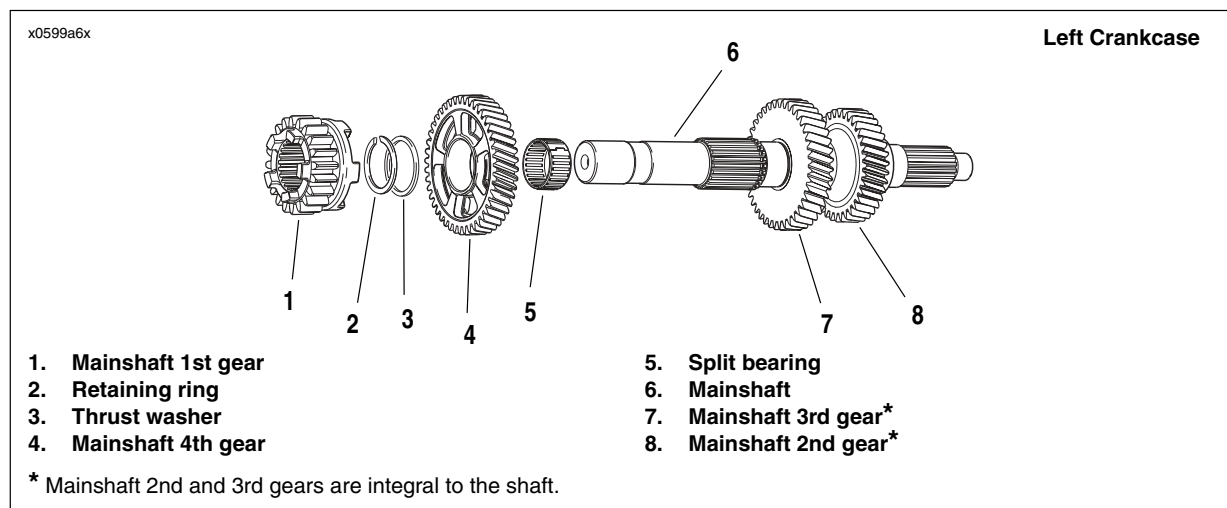

Figure 6-64. Transmission Mainshaft Assembly/Reassembly
1. See Figure 6-64. Install **new** split bearing (5) in 4th gear position on mainshaft.
2. Install 4th gear (4) and thrust washer (3).
3. Using RETAINING RING PLIERS (Part No. J-5586), expand and install **new** retaining ring (2).
4. Install 1st gear (1).